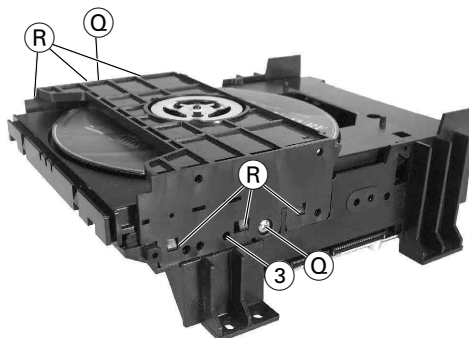

Fig. 9
- Insert a thin screw driver through the hole ③ (Fig. 9), push the slider about 2cm in inward direction then pull out the tray.
- 2 Schrauben ② (Fig. 9) herausdrehen.
- Rastnasen ③ (Fig. 9) lösen und Laufwerkoberteil abnehmen.
- Undo the 2 screws ② (Fig. 9).
- Undo the locking lugs ③ (Fig. 9) then remove the top part of the drive mechanism.